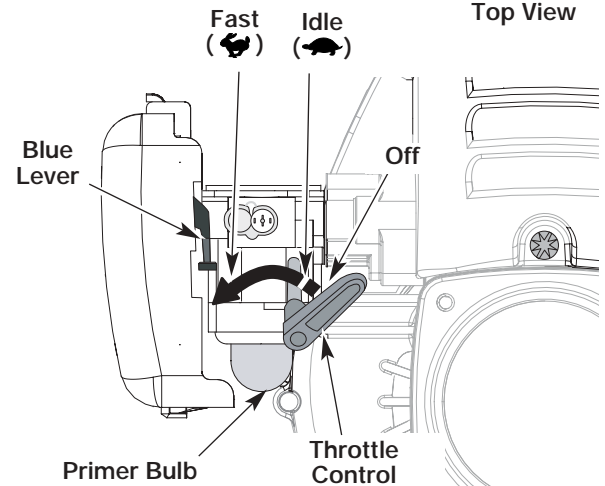
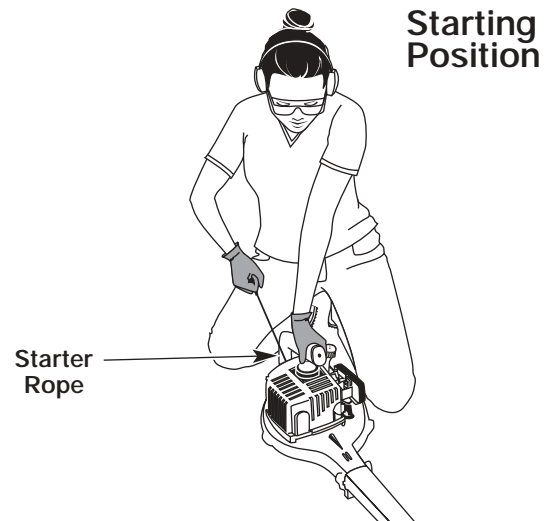

Fig. 2
Fig. 4
**WARNING:** Avoid accidental starting. Make sure you are in the starting position when pulling the starter rope (Fig. 4). To avoid serious injury, the operator and unit must be in a stable position while starting.
2. Fully press and release the primer bulb 10 times, slowly. Some amount of **fuel should be visible in the primer bulb** (Fig. 2) and fuel lines. If you can't see fuel in the bulb, press and release the bulb as many times as it takes before you can see fuel in it.
4. Place the unit in the starting position (Fig. 4). Move the throttle control to the fast position (↶) (Fig. 2).
1. To turn off the blower, move the throttle control lever all the way to the right, past the idle position (↷) until it clicks. Make sure you move the lever into the furthest right detent in order to turn the unit off (Fig. 2).